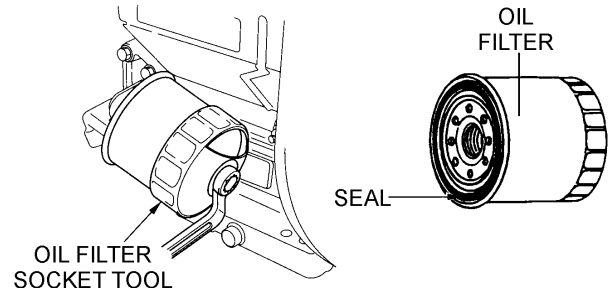

Figure 31. Oil Filter Removal
- Use an oil filter socket tool and remove oil filter as shown in Figure 31
- Clean oil filter mounting base, and coat oil filter seal (Figure 31) with clean engine oil.